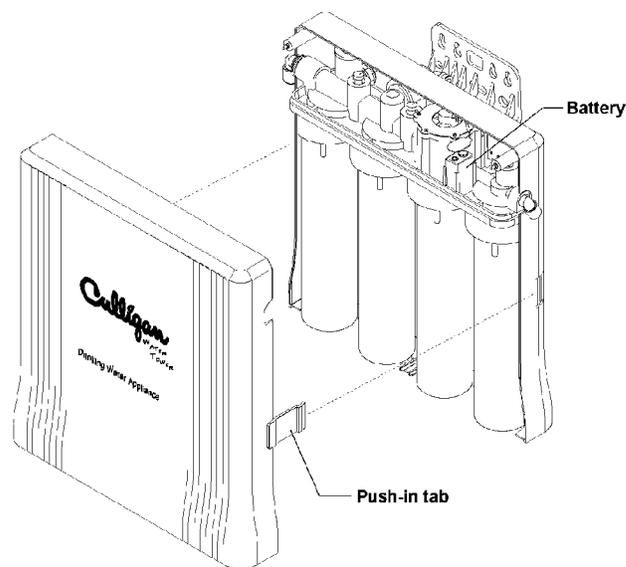

Figure 4
4. Remove enclosure front panel by pressing in push-in tabs and pull cover back. (Figure 4)